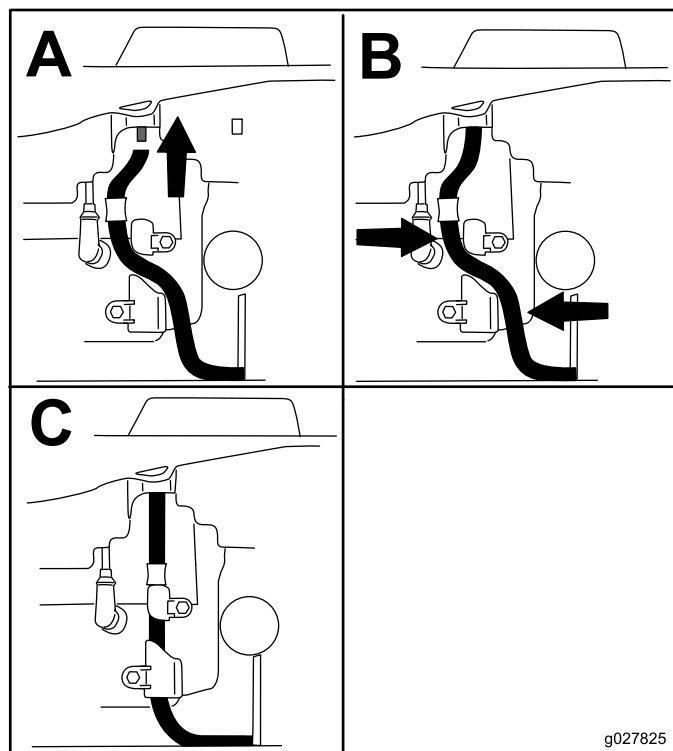

Figure 35
- Install the drain hose as shown in Figure 35.